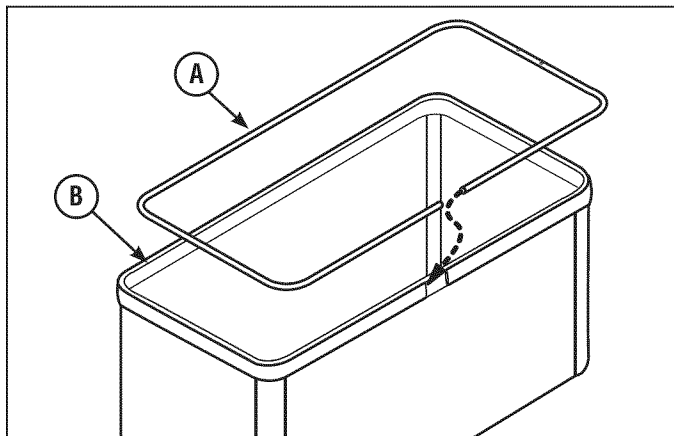

Figure 1
1. Slide bag rod (A, Figure 1) through sleeve on upper edge of grass bag (B).